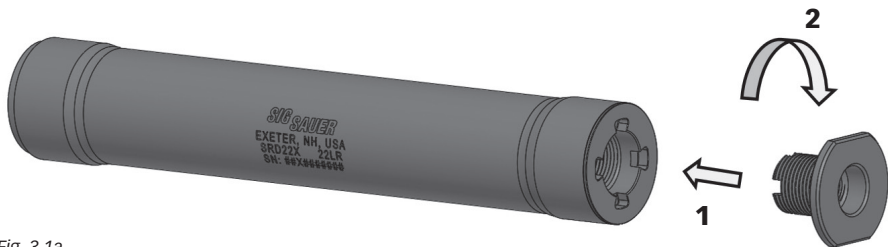

Fig. 3.1a
a. The SRD22X is manufactured with a 1/2-28 threaded interface. An adapter is included to accommodate host firearms with M9-.75 threaded muzzles (See Fig 3.1a).